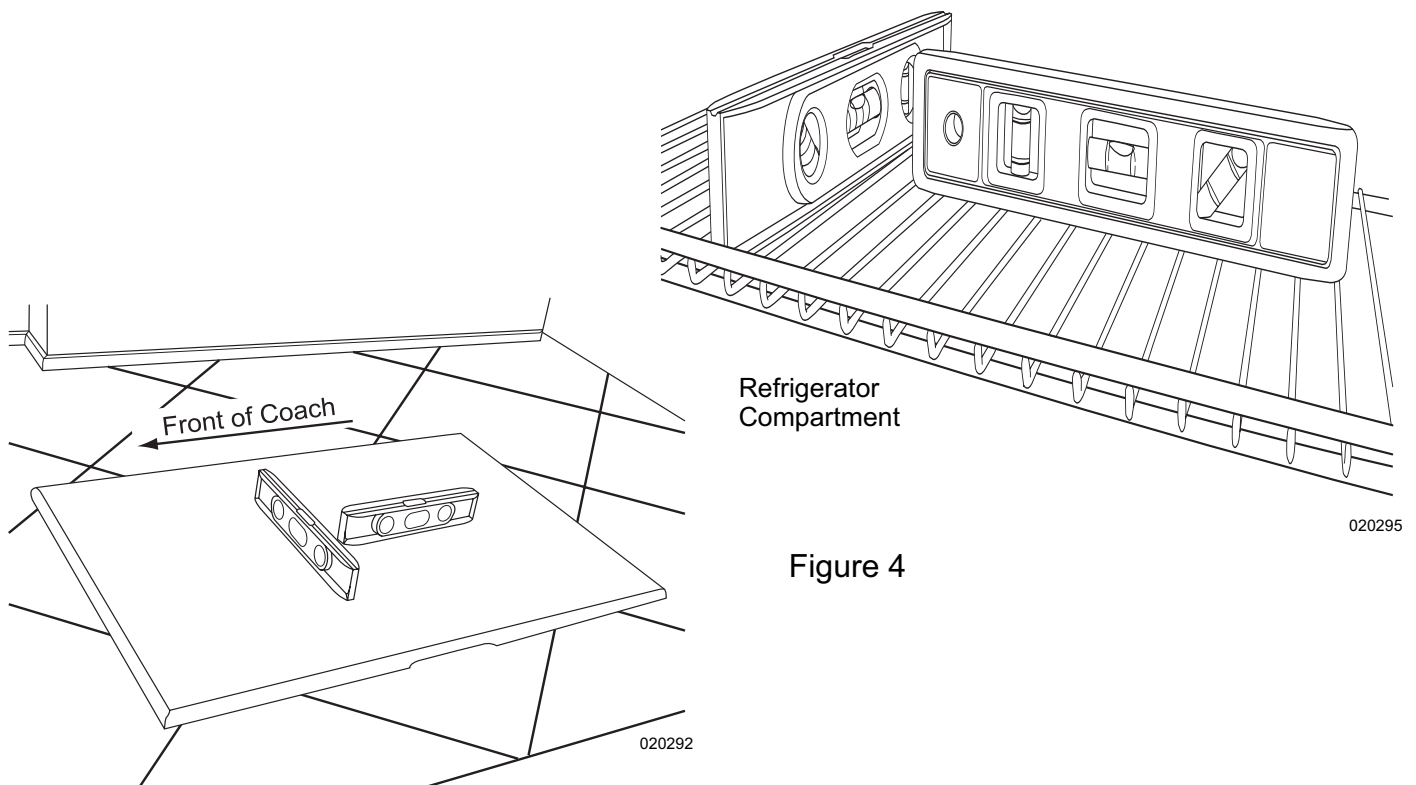

Figure 4
- Install two temporary torpedo levels or equivalent level indicators, inline with both leveling axis on a board placed in the middle of the motorhome (Figure 4) or in the bottom of the refrigerator. Place one level side to side, the other level front to rear.